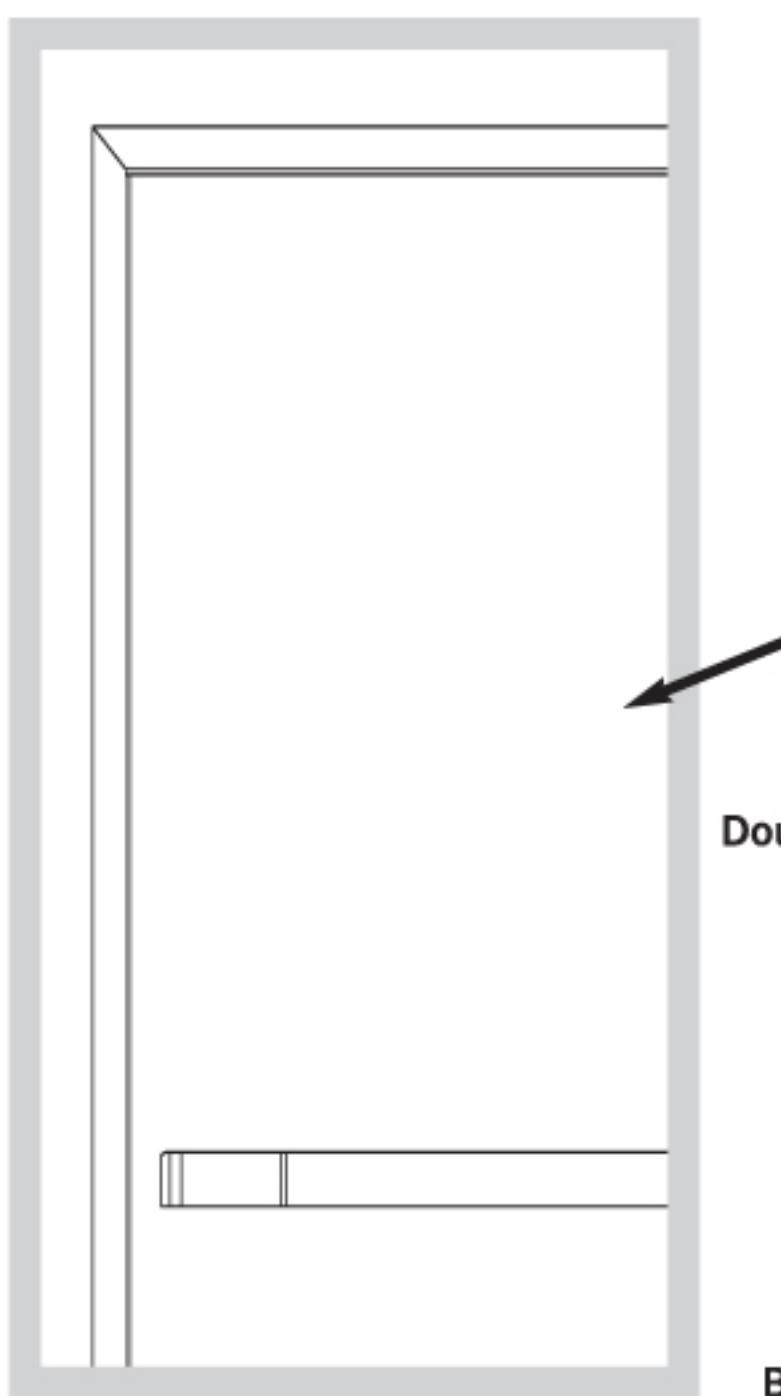

Fig. 17
- 3 Drill and tap through frame and reinforcement for hardware attachment (Fig. 17).